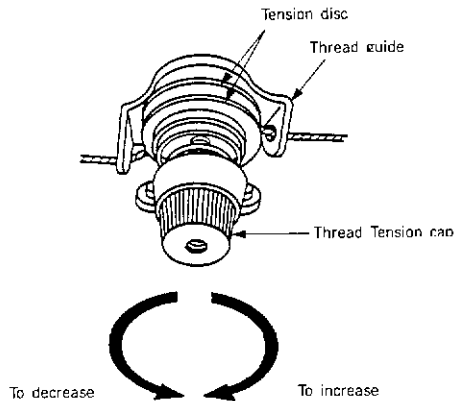

Fig. 4
7. Adjusting Thread Tension (Fig. 4)